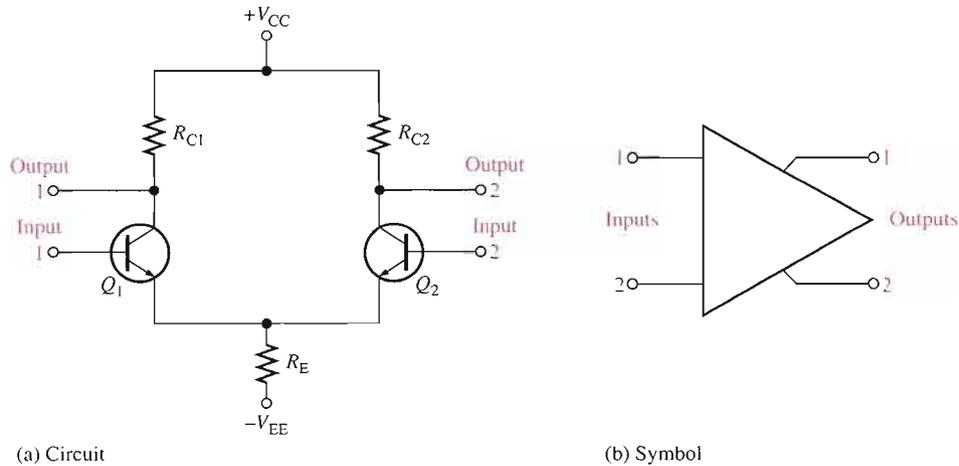

FIGURE 6–36
A basic two-stage, direct-coupled amplifier is shown in Figure 6–35. Notice that there are no coupling or bypass capacitors in this circuit. The dc collector voltage of the first stage provides the base-bias voltage for the second stage. Because of the direct coupling, this type of amplifier has a better low-frequency response than the capacitively coupled type in which the reactance of coupling and bypass capacitors at very low frequencies may become excessive. The increased reactance of capacitors at lower frequencies produces gain reduction in capacitively coupled amplifiers.
► **FIGURE 6–35**
A basic differential amplifier circuit and its symbol are shown in Figure 6–36. Notice that the differential amplifier has two outputs.
The following discussion is in relation to Figure 6–37 and consists of a basic dc analysis of the diff-amp's operation. First, when both inputs are grounded (0 V), the emitters are at  $-0.7$  V, as indicated in Figure 6–37(a). It is assumed that the transistors are identically matched by careful process control during manufacturing so that their dc emitter currents are the same when there is no input signal. Thus,
This condition is illustrated in Figure 6–37(a).
Next, input 2 is left grounded, and a positive bias voltage is applied to input 1, as shown in Figure 6–37(b). The positive voltage on the base of  $Q_1$  increases  $I_{C1}$  and raises the emitter voltage to
The amplifier in Figure 6–41 has a differential voltage gain of 4200 and a CMRR of 25,000. For the same single-ended and differential input signals as described in the example: